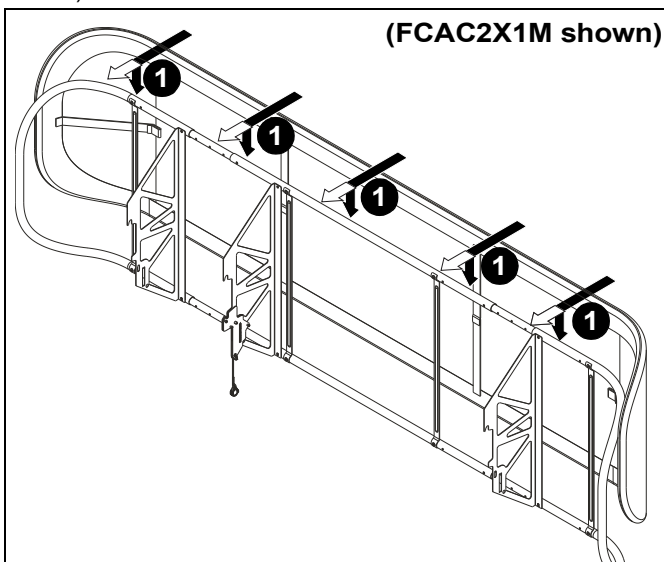

Figure 10
1. Wrap fabric cover (A) over assembled frame. (See Figure 10)